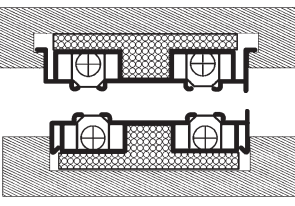

Figure 1
6. Circle One: **Bracket Type** - (Primarily used in retrofit) **Flange Type** - (Used in custom mfg) - **See Figure 1.**